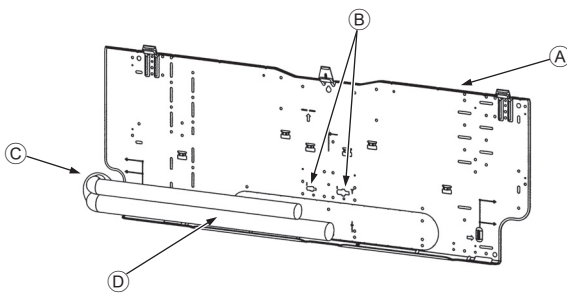

Fig. 3-5
- Ⓓ Fixing screws (4 × 25) ②
- Ⓘ Mount board ①
3.3. When embedding pipes into the wall (Fig. 3-5)
- Ⓐ Mount board ①